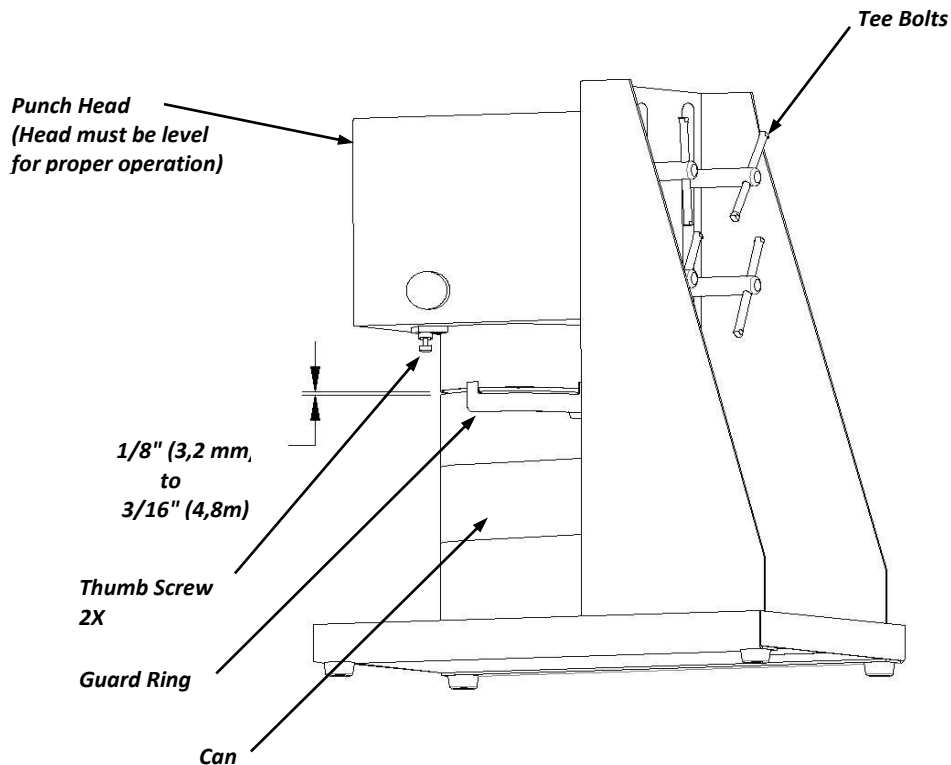

Figure 3
3. Insure the "T" handles are tight. They are located behind the head of the crown punch machine. The height, with the guard ring in place, must be such that when a can is in position under the crown punch, from the can seam to the lip of the guard ring is approximately 1/8 (3,2mm) to 3/16 (4,8mm), (Figure 3 on page 8).
2. Loosen the four (4) "T" bolts at the rear of the vertical (Figure 3) and raise or lower the Head as needed, keeping the can and guard ring aligned and level.
1. With one hand, hold up on the guard ring (Figure 3 on page 8) and with the other hand, unscrew the two (2) Thumbscrews (Figure 3 on page 8).
Remove the splash guard, crown punch, guard ring, and retainer clip (Figure 3 on page 8) after every use for cleaning. You may rinse down the entire machine with soap and water to remove any residue from the unit.